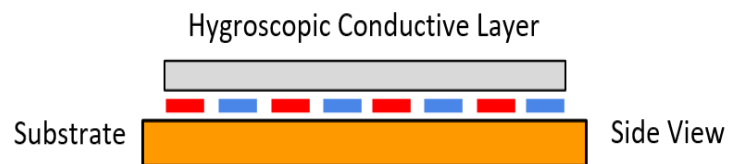

Figure 6.6.1: Hygrometric sensor side view
- A conductive hygrometric sensor is shown in Figure 6.6.1. The sensor is made on a ceramic (alumina) base.